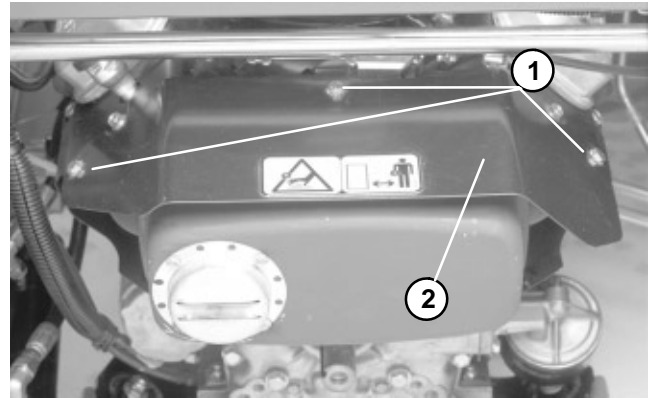

Figure 23
2. Access muffler from the rear of the machine. Remove muffler shield from the engine by removing three cap screws and lock washers securing it to the engine (Fig. 23 and 24).
3. Secure muffler shield to the engine with three cap screws and lock washers (Fig. 23 and 24).